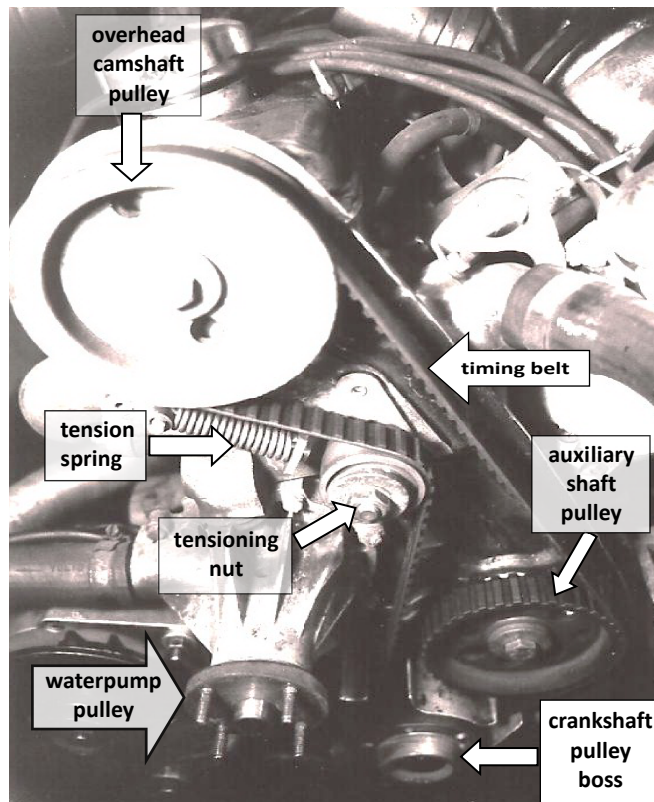

Figure 14. Everything exposed in all its glory!
8. The front of the engine looks like Figure 14.